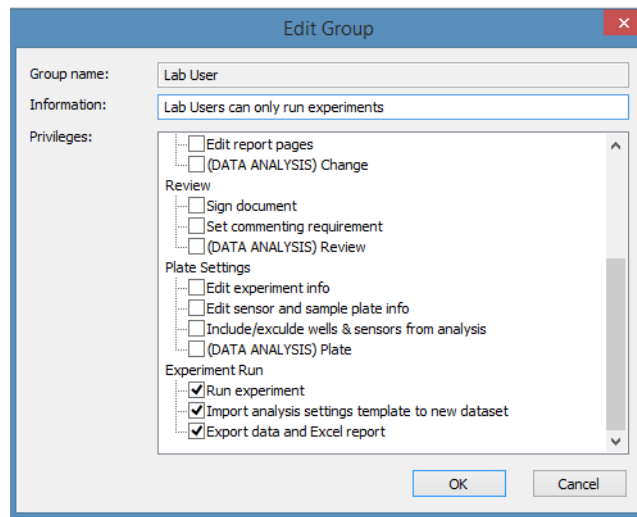

Figure 4-66: Edit Group Dialog Box
2. Select **Edit Group** to display the Edit Group dialog box (Figure 4-66).